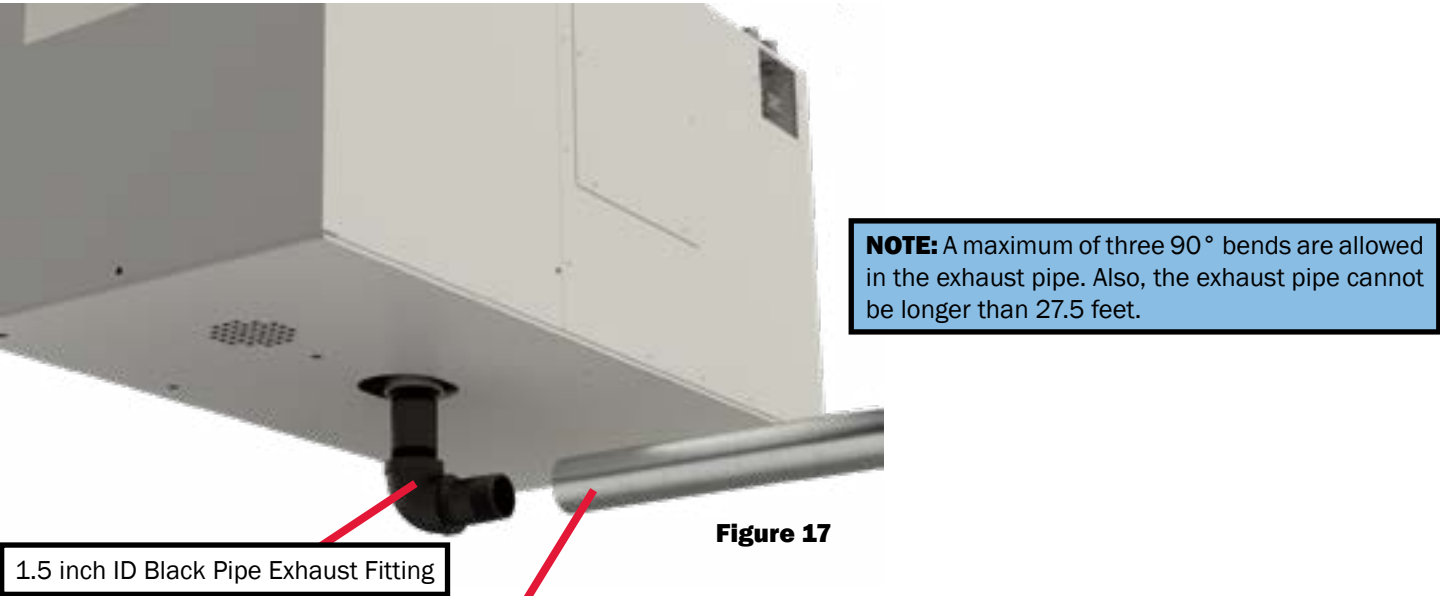

Figure 17
- Do not use galvanized pipe fittings (only black-iron pipe and fittings should be used). Reference Figure 17.